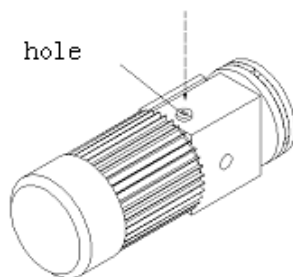

Fig2-13
- ①. Check whether the fastening pieces are loosened
- ② Charge liquid lubricating oil into decelerator and observe whether the oil path is smooth (See Fig2-13)